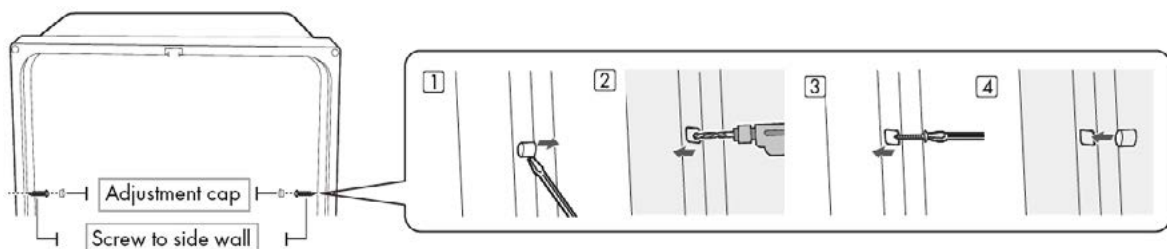

Figure 9
2. Put a large towel into the bottom of the dishwasher to prevent wood shavings or a dropped screw from falling into the dishwasher. Remove the adjustment cap with the tip of a screwdriver. The caps are just inside the tub near the middle on both sides (see Figure 9 on the next page). Carefully drill a hole into the sides of the kitchen cabinet on both sides through the screw holes exposed by the removal of the caps, and then drilling into the cabinet side beneath. Make sure the hole you drill is smaller than the diameter of the screw. Also make sure the drill bit does not strike the sides of the spacer cap holes.